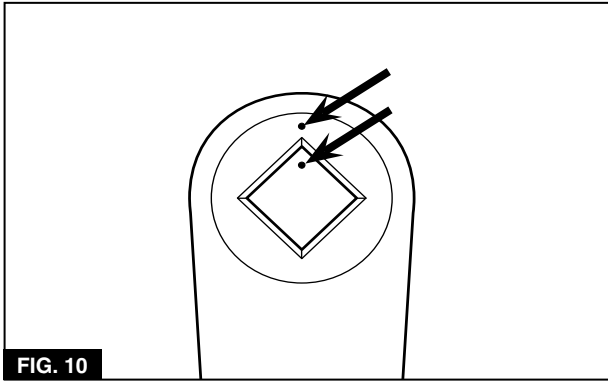

FIG. 10
5. If the crank arm will be reinstalled, mark a corner of the spindle end and a corresponding mark on the crank arm (**Figure 10**). The marks will facilitate assembly.
3A. When reinstalling an old crank arm, align the indexing marks (**Figure 10**) made during removal. Tap the crank arm onto the spindle with a plastic mallet.